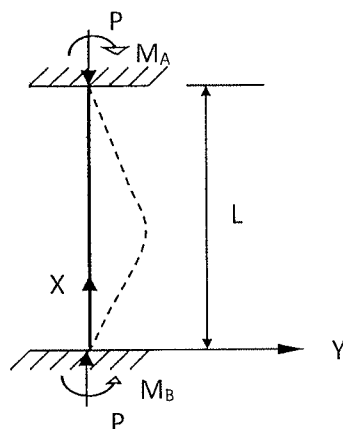

Figure Q3
- (b) A long strut with both ends clamped is subjected to a compressive load P as shown in Figure Q3. (08 marks)